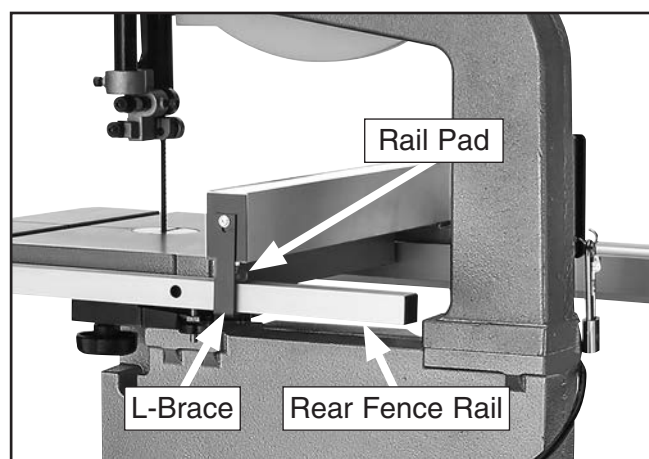
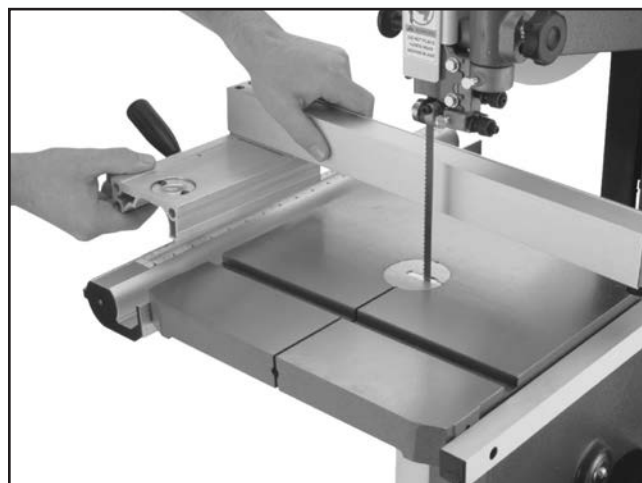

Figure 19. L-Brace positioned over rear fence rail.
Figure 20. Installing fence onto rails.
15. Pull the fence handle up, slip the L-brace over the back of the rear fence rail (see **Figure 19**), and lower the fence onto the front fence rail, as shown in **Figure 20**.